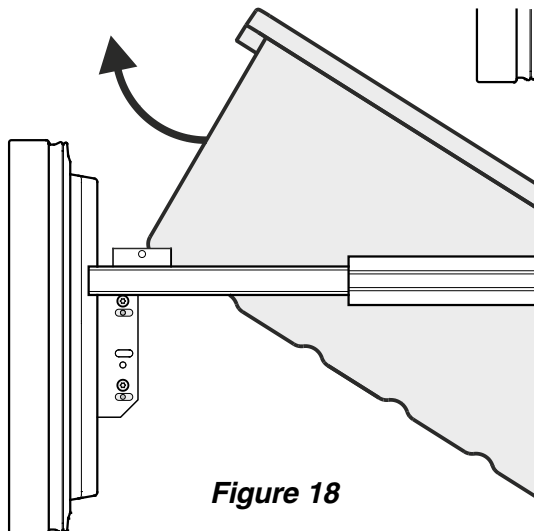

Figure 18
- Tilt the container at an angle and remove - **Figure 18.**
- Remove the freezer drawer containers as shown in **Figure 17** and **Figure 18**.